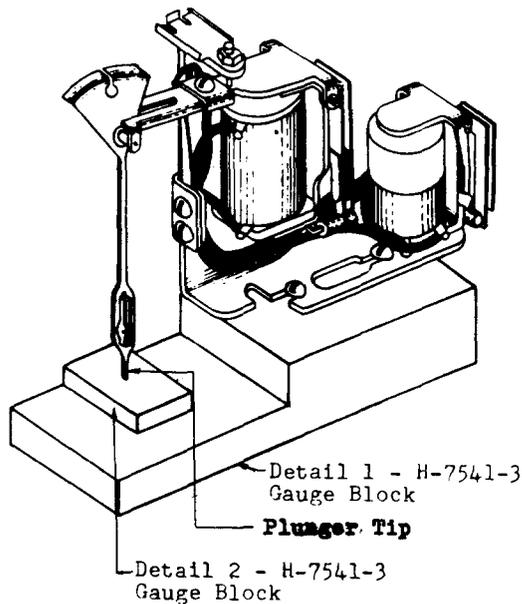

Fig. 21 — Gauging and Adjusting the Plunger Stroke — Armature Unoperated
(3) If, with the plunger armature resting against the plunger armature backstop, the tip of the plunger when perpendicular does not just touch the upper surface on detail 2 as shown on Fig. 21, loosen the plunger armature backstop screw locknut with the No. 418A wrench and turn the plunger armature backstop screw in or out as required. Then check the plunger for plunger movement as covered in (4) through (8).
(4) The plunger is considered as free from bind if when given an impulse with the finger, it will swing as a pendulum and come to rest in a position approximately perpendicular to the upper surface of the plunger gauge block.